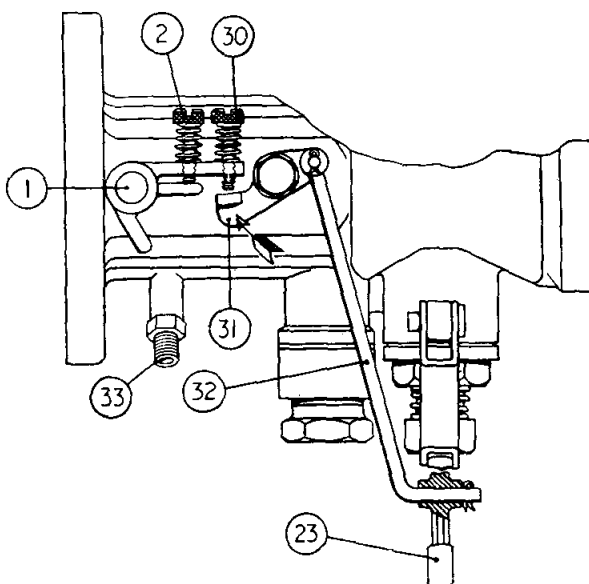

Fig. 9 Throttle and Mixture Control interconnection.
The mechanism involved in this interconnection is shown in Fig. 9. It will be seen that a connecting rod (32) conveys movement from the jet lever (23) to a lever (31) pivoted on the side of the main body casting.